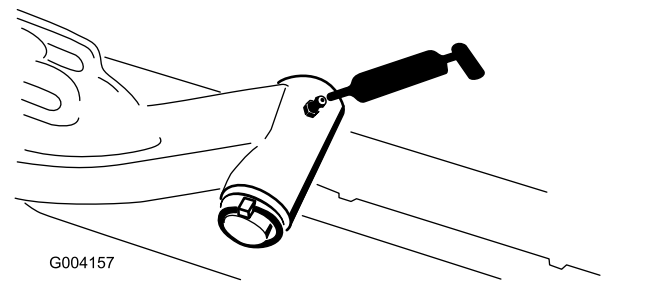

Figure 47
- Lift-arm-pivot shaft (1 each) (Figure 47)